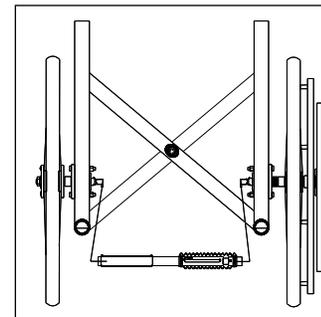

Fig. 10
**4. Installing Drive Shaft Assembly (Fig. 10 & 10a)**